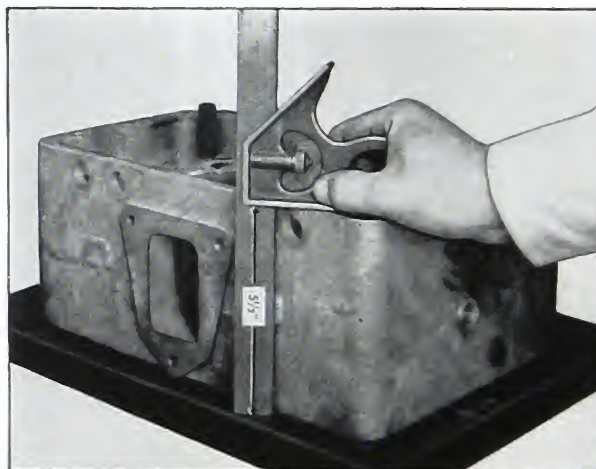

Fig. 3-7. Checking height of cylinder head suitable for rebuilding.
5. Check the overall height of the cylinder head. New cylinder heads are 5½" in height. (Fig. 3-7). If this dimension is less than 5½" it indicates that the cylinder head has been welded and remilled (or at least remilled) on the face. Welded and remilled cylinder heads must be very carefully checked to determine that the new injector sleeves can be installed and seated to provide proper injector cup tip protrusion of .040 to .055. Many welded cylinder heads are not